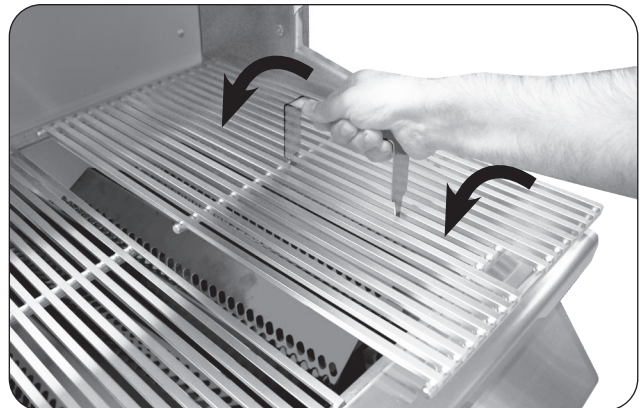

**Fig. 24-2** Install cooking grids
1. With the prongs facing downward, insert the notched-end of the lifter between two grid rods, then rotate, as shown in Fig. 24-2, A & B.
2. Insert the rear pointed-end of the lifter between the same two rods (see Fig. 24-2, B) and carefully lift the cooking grid and place onto the front and rear grid rests of the grill (see Fig. 24-3). Repeat for all other cooking grids.